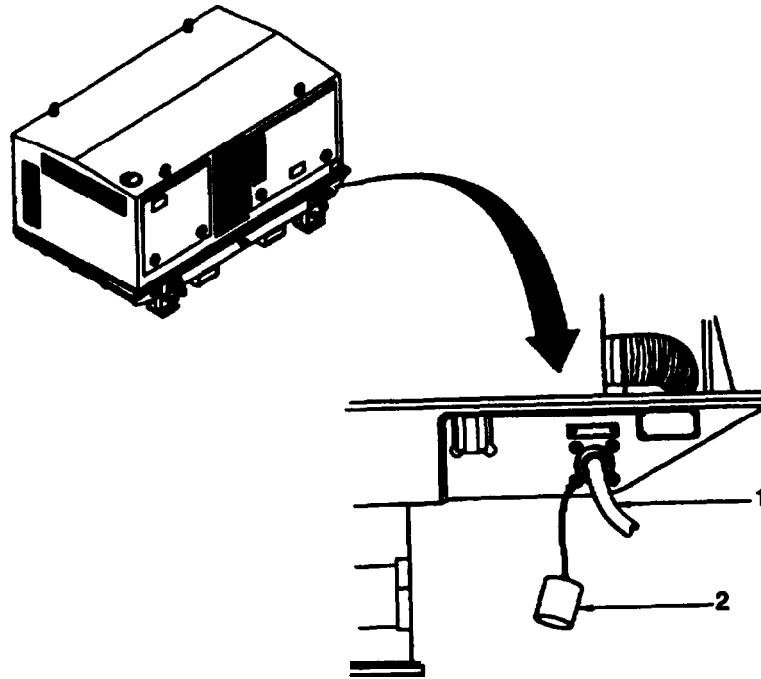

Figure 2-22 Disconnect Battery Cable.
- (1) Pull battery cable (1, figure 2-22) out of SLAVE RECEPTACLE 24 VOLTS on each Generator Set 150 kW.
- (2) Place protective cap (2) on J3 SLAVE RECEPTACLE 24 VOLTS.